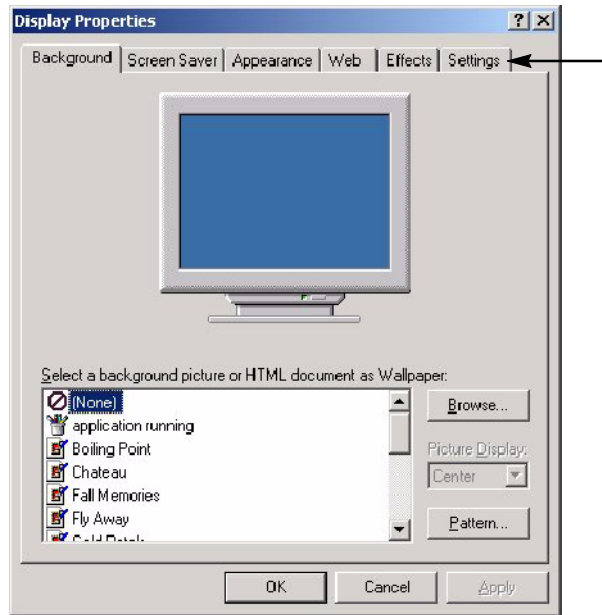

Figure 9: Settings tab
3. Click the Settings tab. See Figure 9.